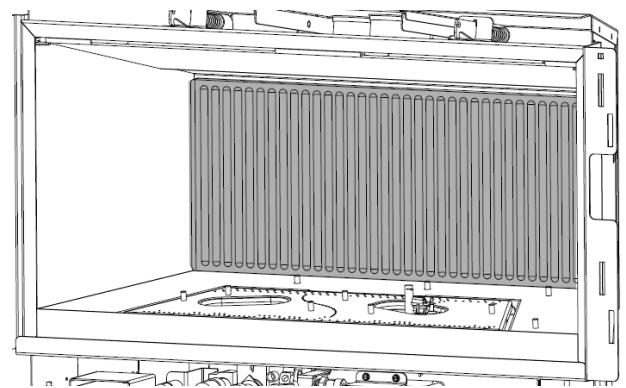

Figure 7.9. Install rear panel. Fluted panel shown.
- The panel simply rests on the rear burner skirt, flat against the back of the firebox. The side panels will lock the rear panel in place as they are installed. Fig. 7.9.